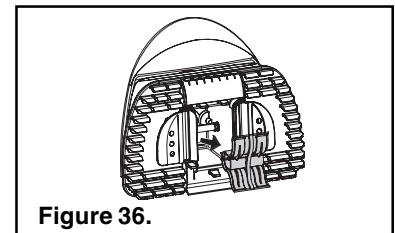

Figure 36.
4. Pull the Oscillator Straight out from the bottom of the Outer Housing. Be careful not to lose the Sliding Seals, (see Figure 36).